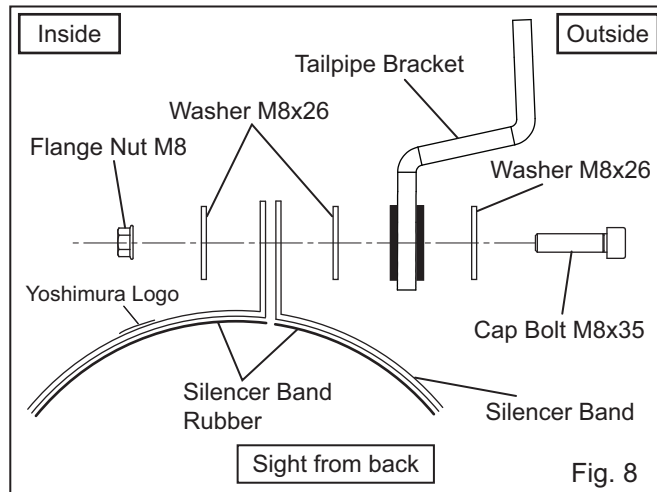

Fig. 8
**CAUTION** When mounting Silencer Band on Sub-silencer, make sure Yoshimura Logo printed in Silencer Band comes on the left side when viewed from back (See Fig. 8).